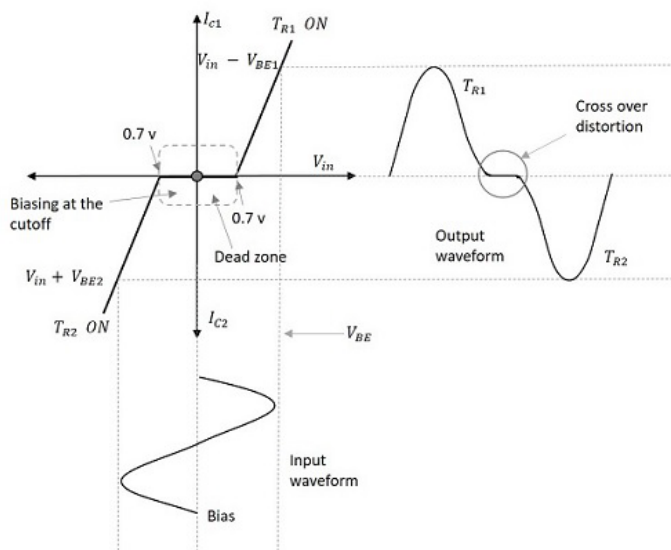

Figure 2: Waveform
- Amplifier output stage: the diode biasing is added to ensure that both output transistors conduct during zero-crossing, eliminating the zero-crossing non-linearity shown in Figure 2.